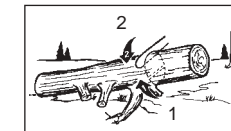

Fig. 12B
- Log supported on 1 end: First, cut from bottom (underbuck) 1/3 diameter of log to avoid splintering. Second, cut from above (overbuck) to meet first cut and avoid pinching (Fig. 12B).